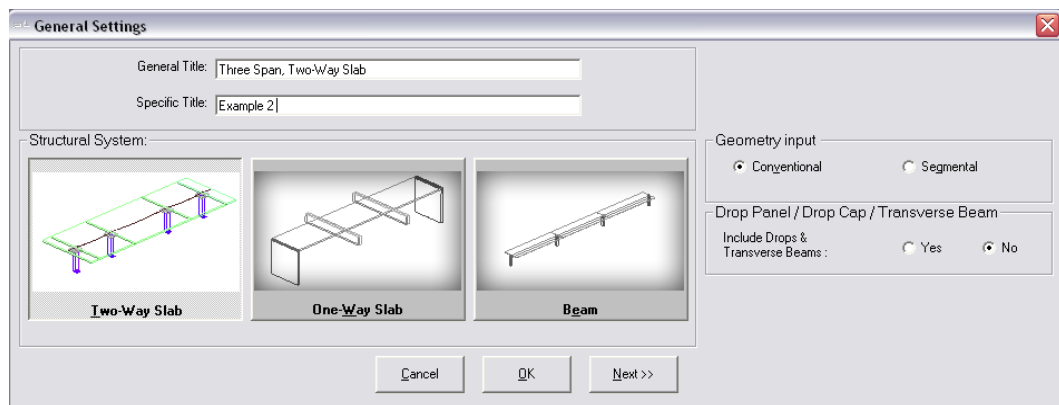

FIGURE 3.1-1
3.1.1.1 General Settings (Fig. 3.1-1)
Open the new project by clicking either **New** on the *File* menu or the **New Project** button on the toolbar. This automatically opens the *General Settings* input screen, as in **Figure 3.1-1**. You can enter the *General Title* and /or *Specific Title* of the project in that window. For the purpose of this tutorial, enter the *General Title* as **Three-Span, Two-Way Slab**. This will appear at the top of the first page of the output. Enter *Specific Title* as **Example 2**. This will appear at the top of each subsequent page of the output.